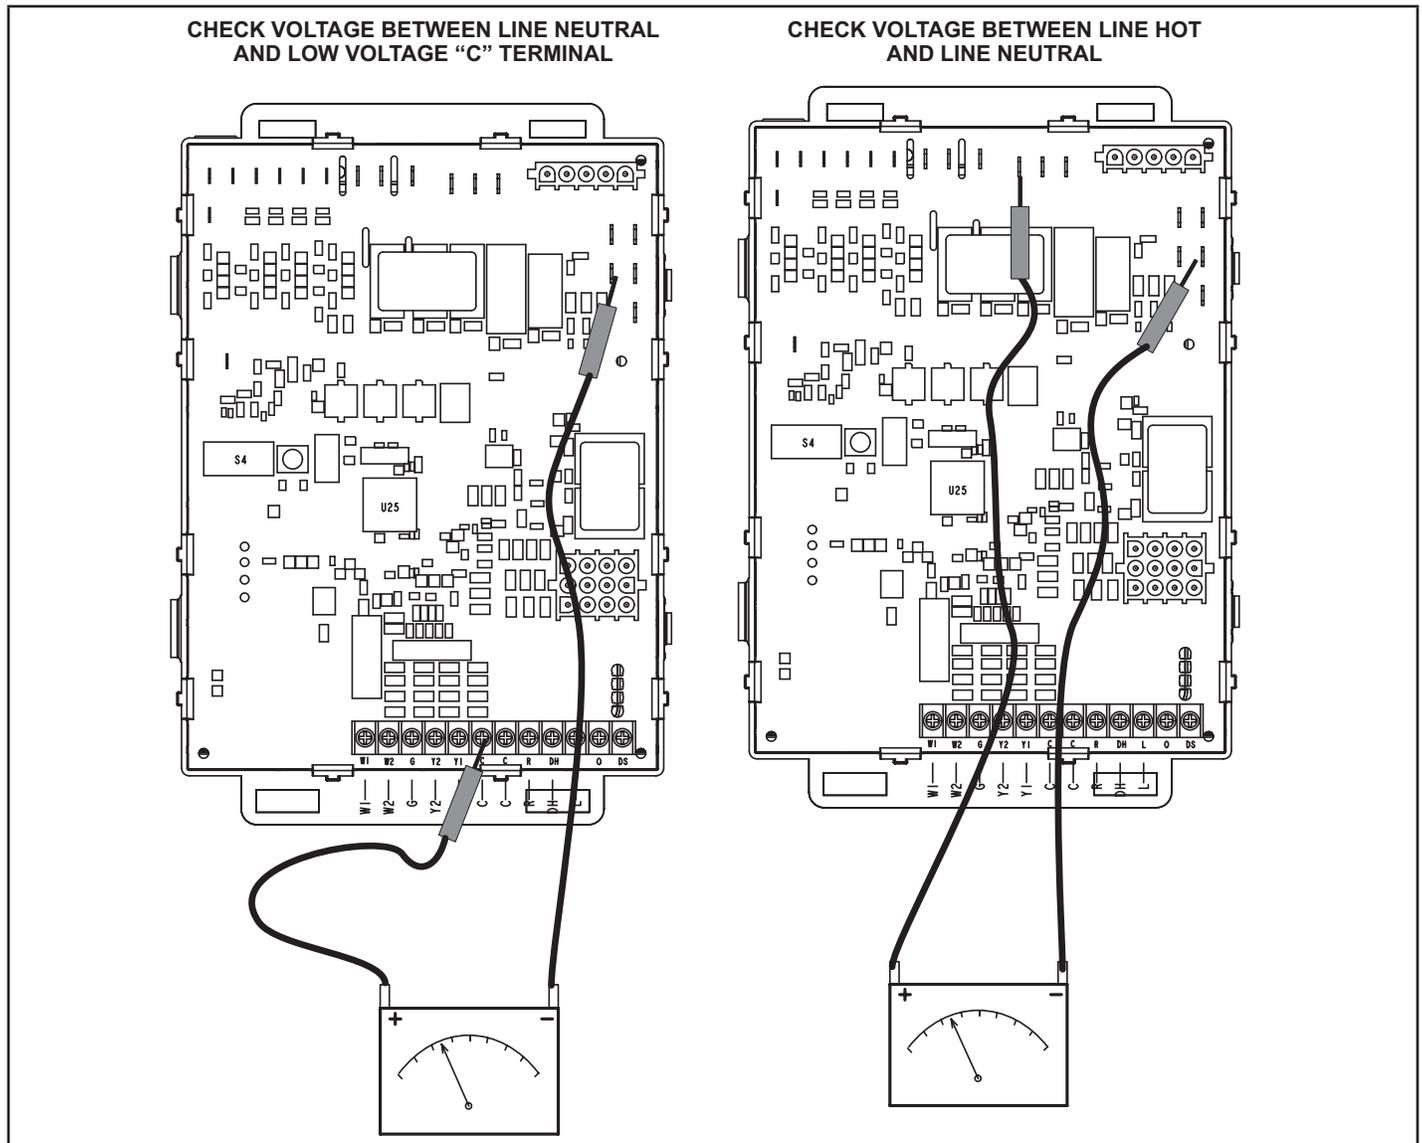

FIGURE 21
- 1 - Measure the AC voltage between Line Neutral (spade terminals) and "C" terminal (low voltage terminal block) on the integrated control. See FIGURE 21. A wide variation in the voltage between Line Neutral and "C" as a function of load indicates a poor or partial ground. Compare the readings to the table below. If the readings exceed the maximum shown in TABLE 16, make repairs before operating the furnace.
- 2 - In addition, measure the AC voltage from Line Hot to Line Neutral (spade terminals) on the integrated control. See FIGURE 21. This voltage should be in the range of 97 to 132 Vac.